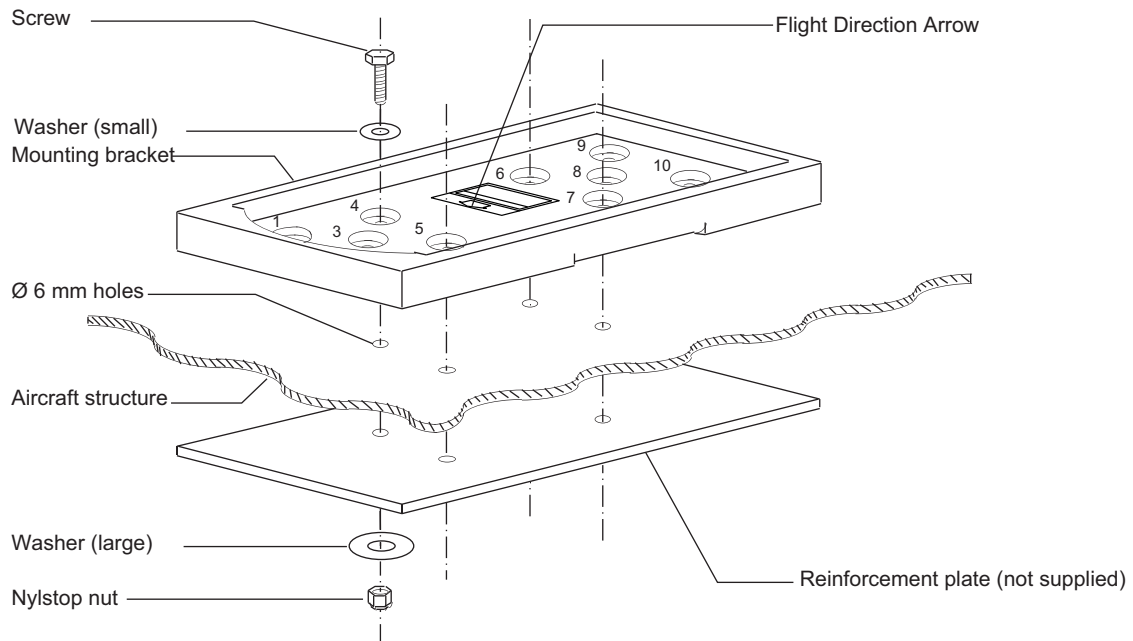

Figure 202:Bracket Installation
- If the aircraft structure is not solid enough to withstand a 500 kg traction on the bracket, a reinforcement plate (not supplied) should be installed as shown Figure 202: Bracket Installation.